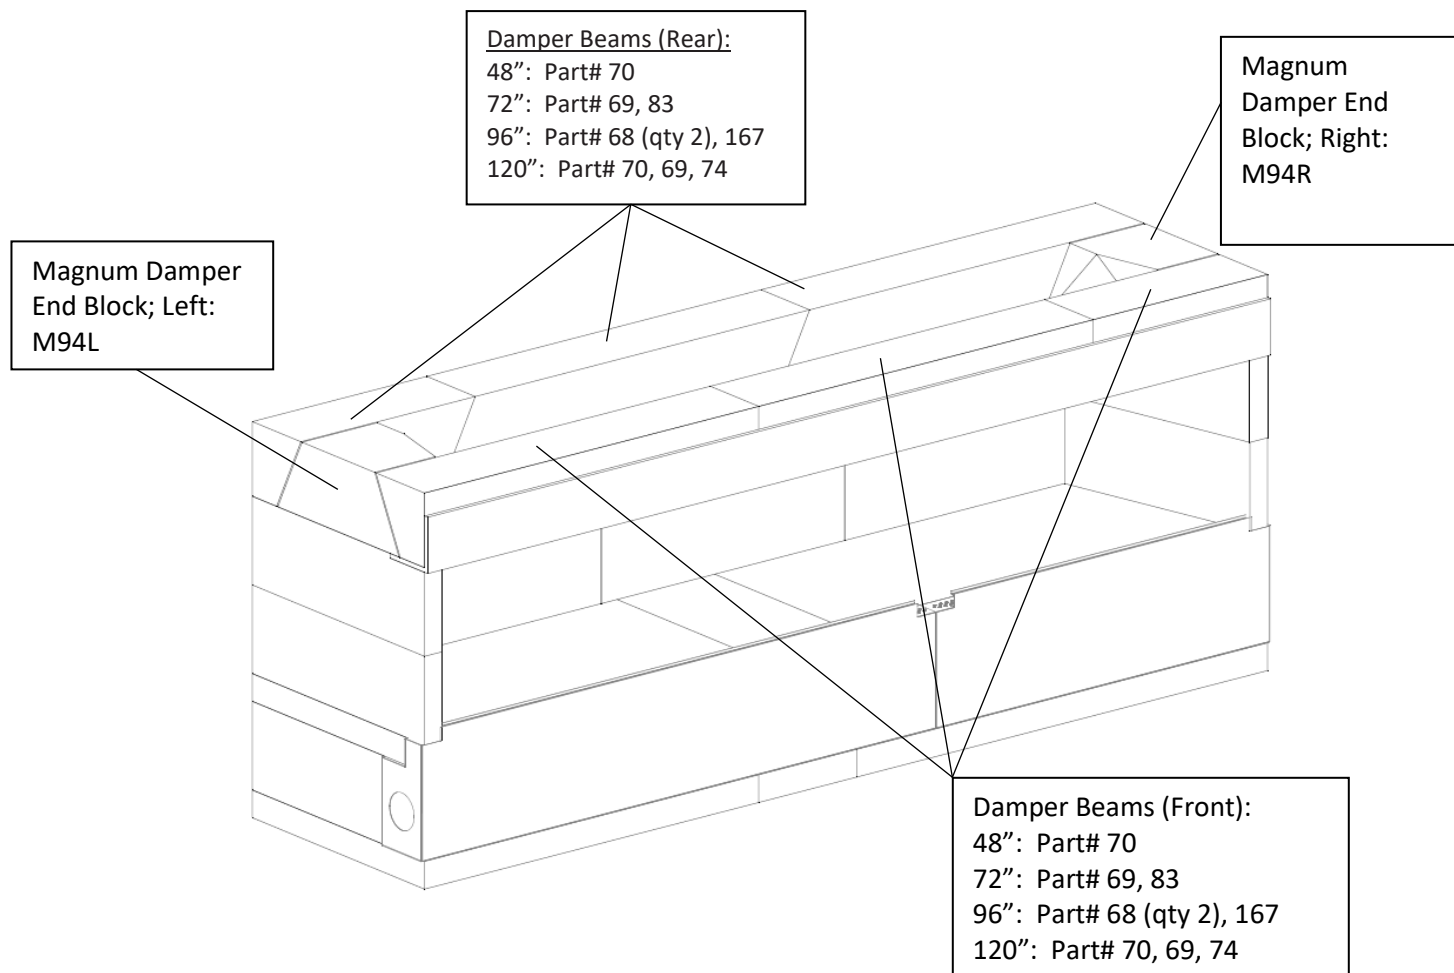

FIGURE 16
The damper beam assembly consists of long lintel pieces and two (2) short damper end blocks. The lintels will be equal to the width of the fireplace model that they serve. These components both sit on their narrow base so that their beveled face points down and into the firebox interior (**Figure 16**).
The damper end blocks are designed to sit on the firebox side wall between the front lintel and the back lintel. Each of the damper end blocks are designed for a specific side of the unit. When properly set, the vertical face of the damper end block will be flush with the outside face of the firebox side wall and the widest angled face should be oriented towards the rear. (**Figure 16**).